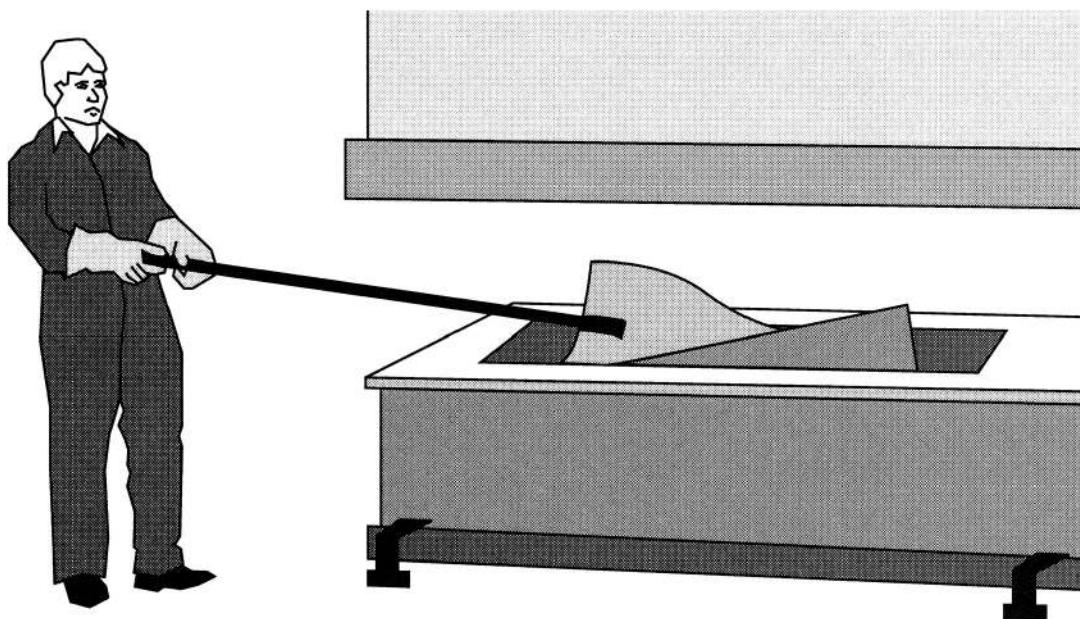

Figure 3. The fan blade is made by shaping molten titanium in a hot press, welding each blade skin to a mate, and then filling its hollow cavity with titanium.
1. Each fan blade, situated at the front of the engine, consists of two blade skins produced by shaping molten titanium in a hot press (see figure 3). When removed, each blade skin is welded to a mate, leaving a hollow cavity in the center. To increase the strength of the final product, this cavity is filled with a titanium honeycomb.